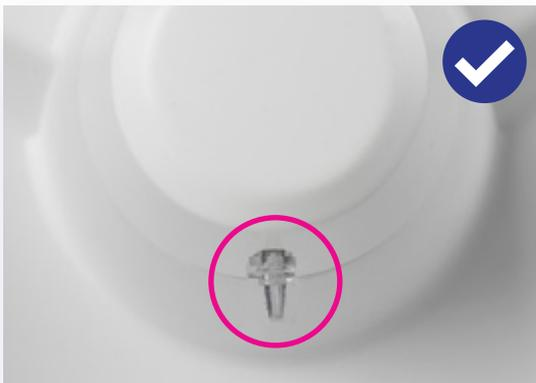

Figure 28: Nozzle tip fully emerging through the hole in the pinch valve cover.
7. Put the pinch valve cover back onto the instrument. The nozzle tip should fully emerge from the hole in the pinch valve cover and be visible once the cover has been replaced, as shown in Figure 28.